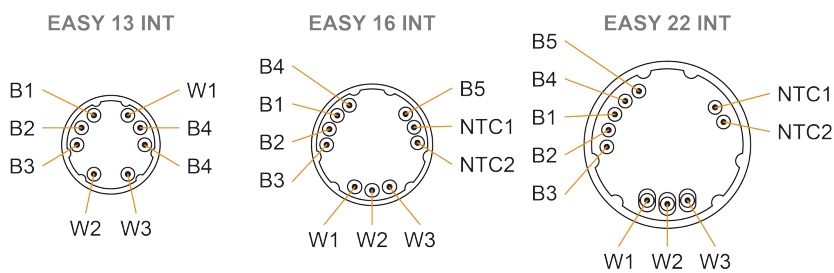

Figure 20 ENX 13 | 16 | 22 COMM – Pins
- Hall sensors, motor, and NTC with pins (→Figure 20)